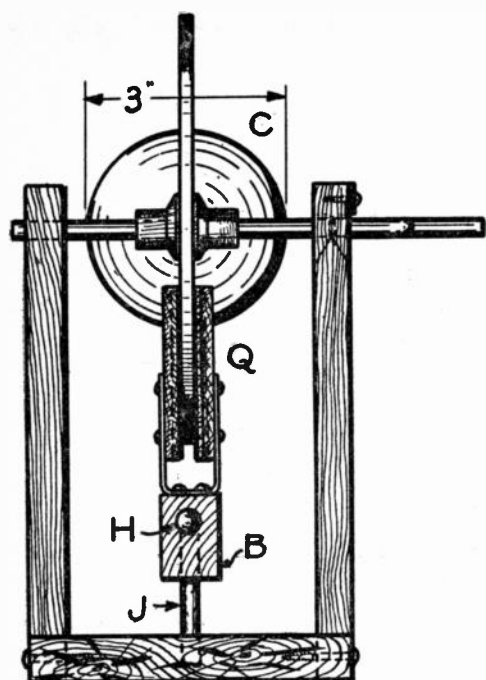
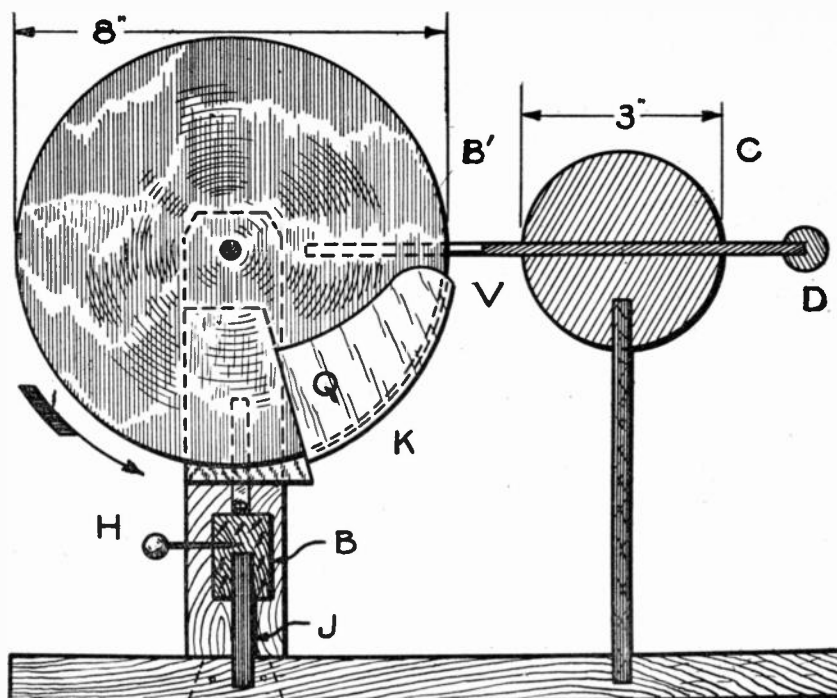
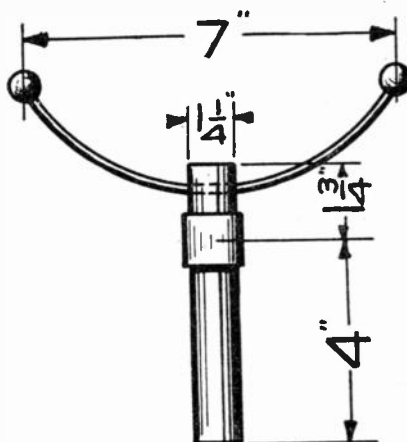

FIG 10
FIG 11
FIG 12
Fig. 9 shows a little ball with stem; its position in the machine is shown at (H), Figs. 10 and 11.
the other equally solid boards, so that these last may be real cushions. They are covered on the inner side with thin, soft felt. This spring is attached to a block of wood (B), Figs. 10 and 11, with screws; this block is one inch high, three-quarters inch wide and thick. It has on the side opposite to the spring a hole three-quarters inch deep (B) for receiving the glass rod (J), Figs. 10 and 11.
From a glass rod one-half inch thick we cut off a piece $2\frac{1}{2}$ inches long and cement it with one end in the block (B), Figs. 10 and 11 of the rubbers. The other end is cemented in a hole directly under the shaft of the glass plate which lies in the center between the two uprights; the hole is three-quarters inch deep. A short pin, Fig. 9, which has a head at one end of it, is first driven into the block. This pin and the friction cushion to be amalgamated presently must be connected electrically one to the other by a strip of tinfoil. The frictional cushion is to be spread over with the so-called Klenmayer's amalgam. It consists of two parts of mercury, one part of zinc and one part of tin. The amalgam is rubbed on with the fingertips until a thick gray coating is produced. If the amalgam does not stick well a little lard is added to it. The friction cushions are now so strongly pressed against the corresponding boards which are attached to the spring, that the pins are forced into the uncoated side of the cushion boards. The cushions by the action of the springs and the outer boards are so firmly pressed against the glass
Consists of a hollow brass ball, 3 to 4 inches in diameter. As we could not easily spin up such a ball, we will make our prime conductor of wood and cover it with tinfoil, as shown in (C), Figs. 10 and 11. The ball is bored completely through, exactly following its diameter in any desired direction. Through this hole we thrust a brass wire (V), Fig. 11, about one-eighth inch thick, to which a fork (B) is soldered at one end. The wire is six inches long and the fork, made out of the same wire as (V), is three inches long. The space between the prongs of the fork is nearly one-half inch. It is provided with teeth as shown in Figs. 12 and 13, made out of thin brass pins and soldered so as to be exactly opposite each other on